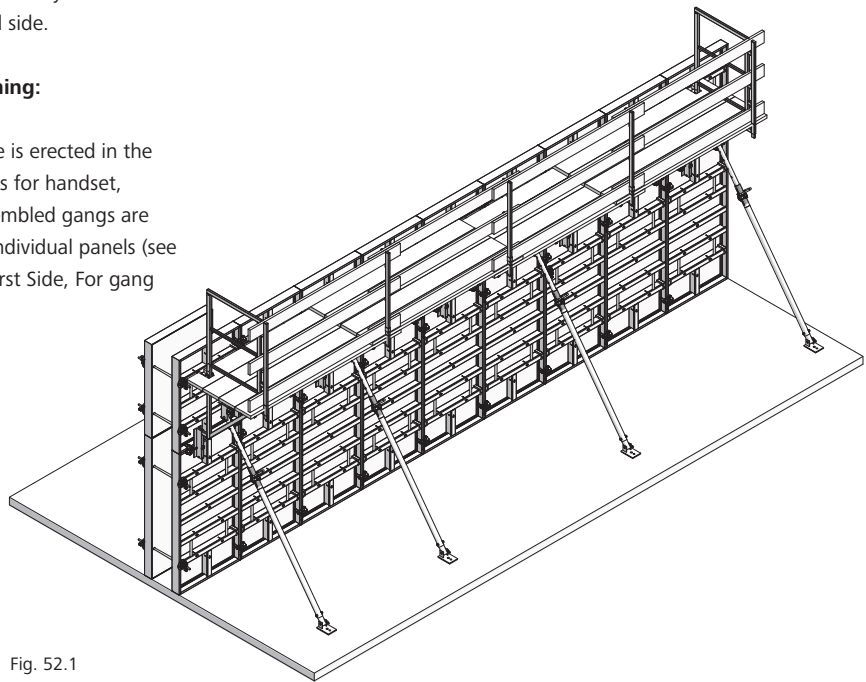

Fig. 52.1
2. Apply form release agent to the second side panels and set the first one into place (Fig. 52.1). Anchor braces and install and anchor shoe plates if being used on second side. Otherwise, install taper ties or remaining components of other tie systems and secure with flange nuts.